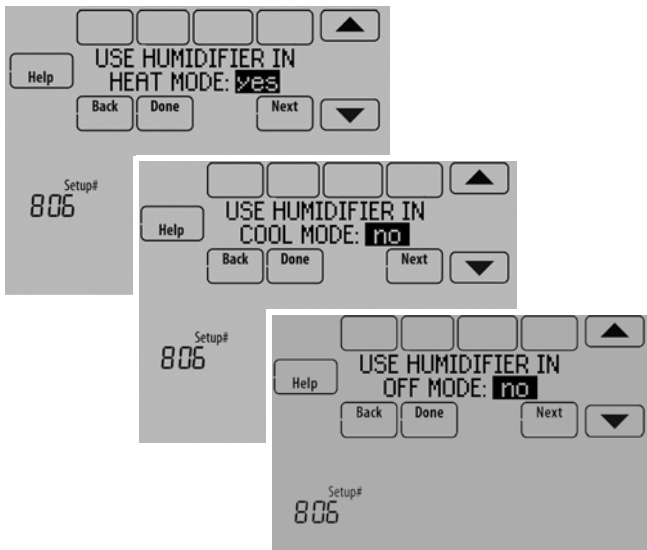

Fig. 181.
5. Select the system mode(s) to allow humidification. See Fig. 181.